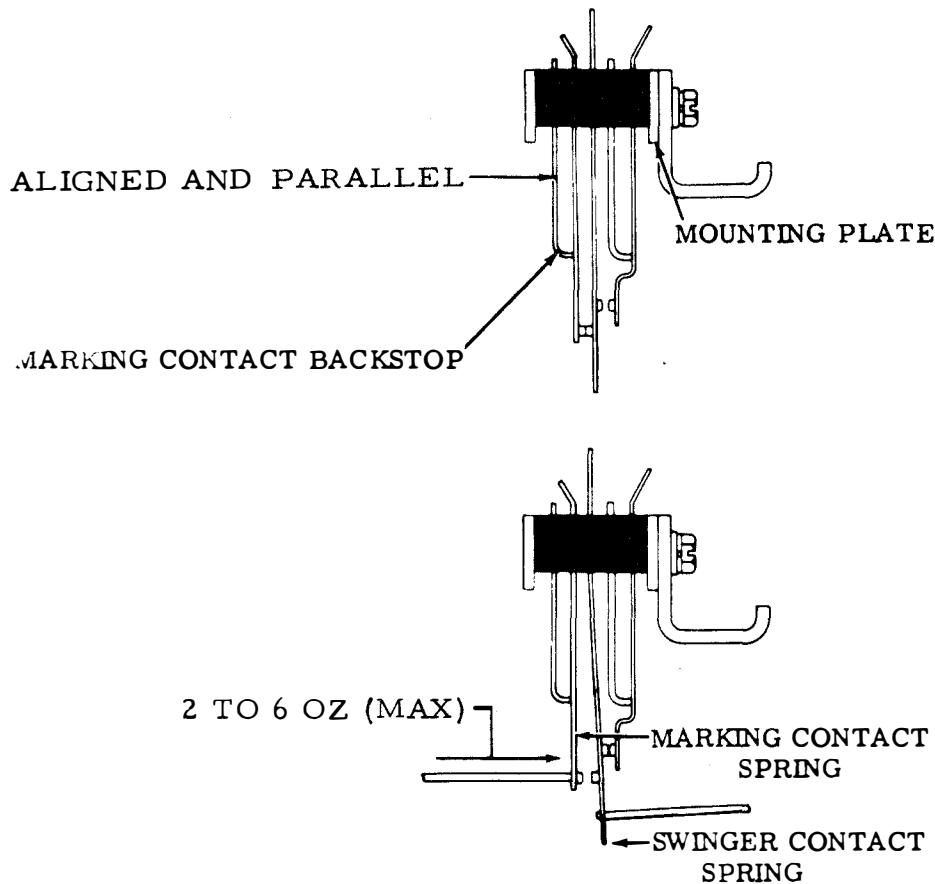

Figure 6-195. Marking Contact Backstops and Marking Contact Springs
(1) Marking Contact Backstops. Adjust as follows:
- (a) Refer to figure 6-195.
(a) Refer to figure 6-195.